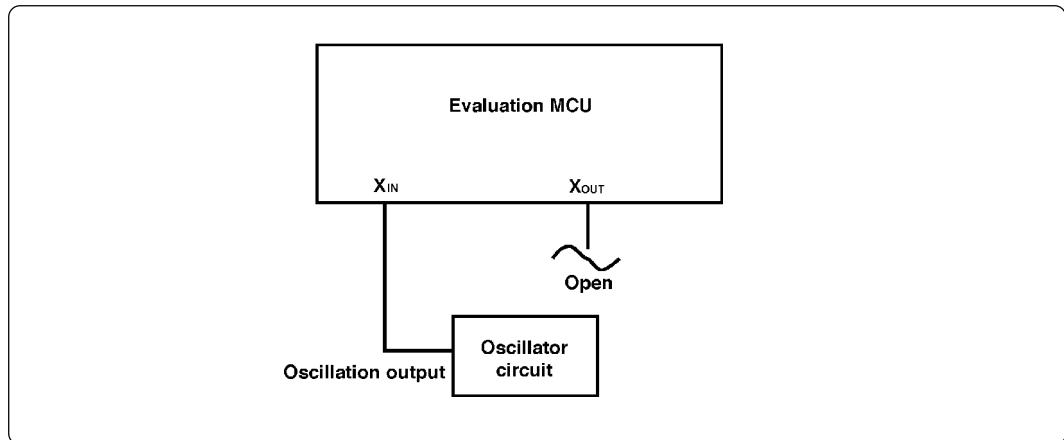

Figure 3.3 External oscillator circuit
- To operate the emulation pod with an external clock, construct the oscillator circuit as shown in Figure 3.3 in the target system and input the oscillator output at 50% duty (within the operating range of the evaluation MCU) into the  $X_{IN}$  pin. And the  $X_{OUT}$  pin should be open.